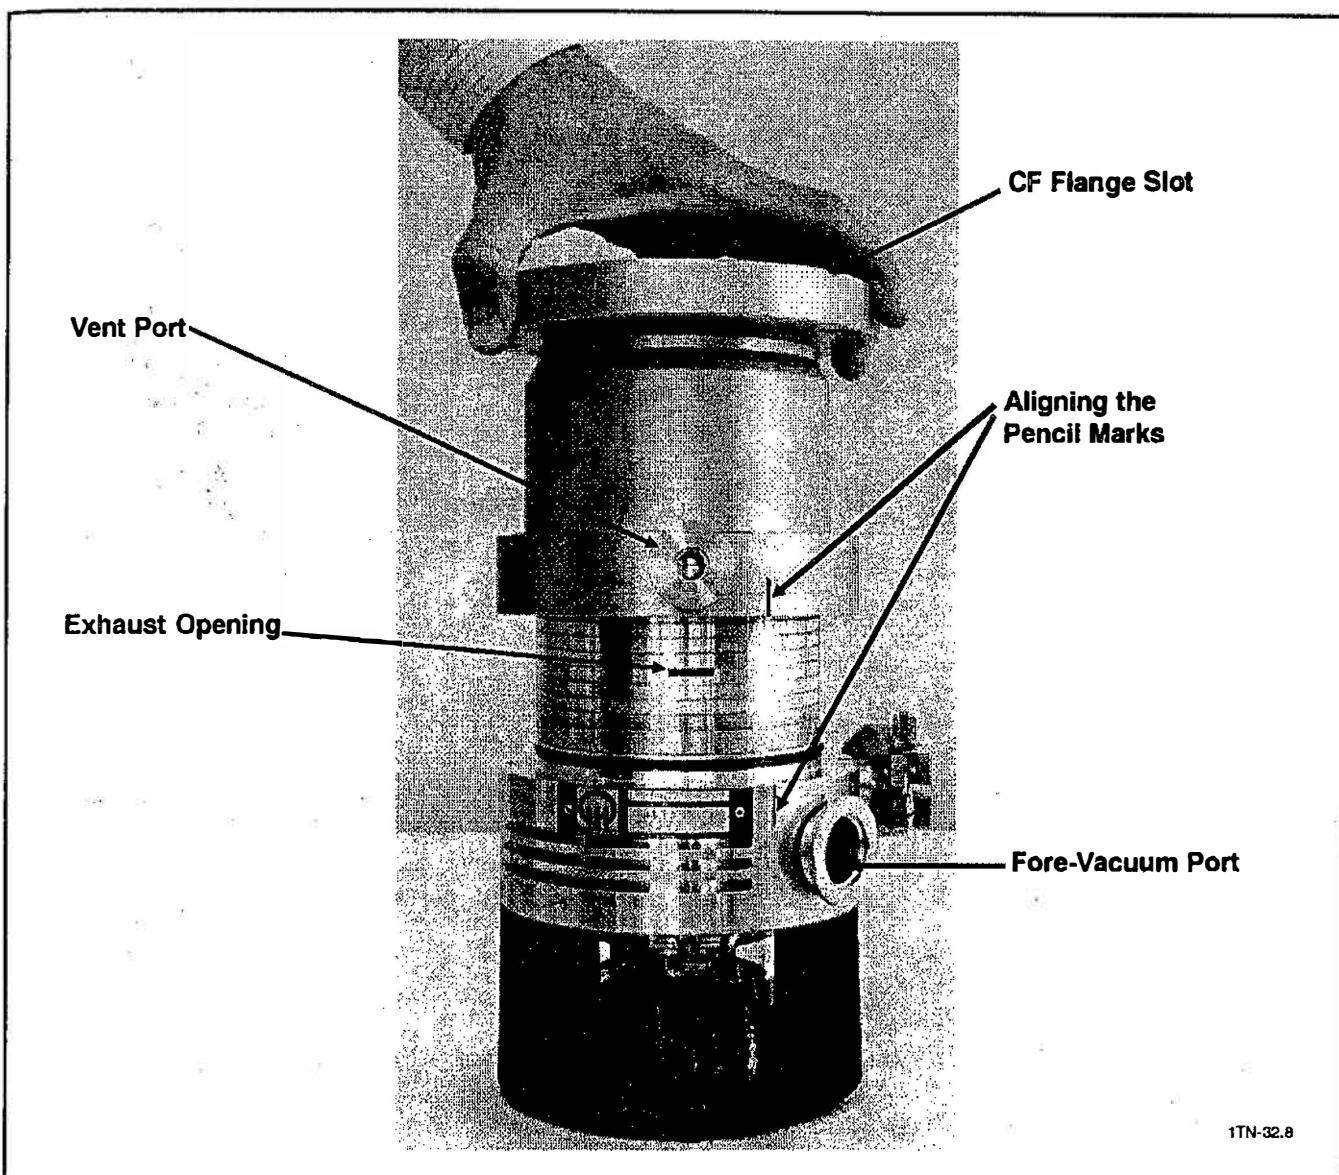

Figure 4-10. Installing the Pump Housing
Note that there is an exhaust opening in the fifth stator ring from the bottom. This exhaust opening must face the vent port as shown in Figure 4-10.
5. Slowly lower the pump housing directly over the stator package, being careful not to turn the housing or to bump the stator rings and knock them out of place (Figure 4-10). Align the pencil marks that you made during disassembly to ensure that the housing's six screw holes are positioned over the screw holes in the pump base. This hole alignment is essential since the pump housing O-ring prevents you from easily rotating the pump housing once it has been seated. For pumps that have a CF flange, the slot in the high-vacuum flange must face the fore-vacuum port (see Figure 4-10).